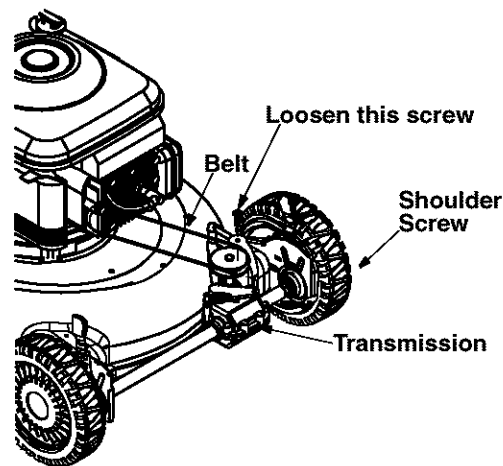

Figure 13
- Slide the belt off the engine pulley and around the blade. See Figure 13.